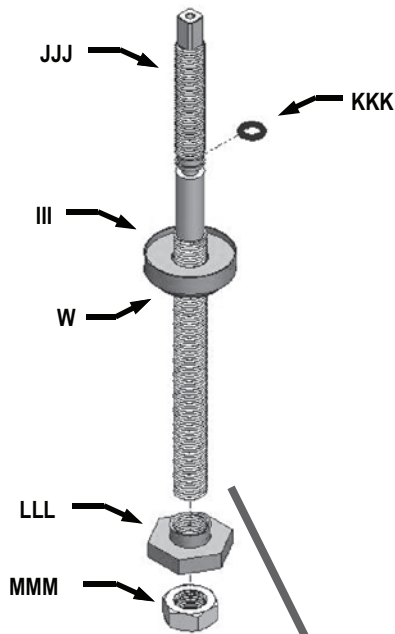

Figure 38
Step 52: Press fit the Thrust Bearing (W) into the Bearing Case (III).
Step 53: Slide a –108 O-Ring (KKK) onto the Adjusting Screw (JJJ) as shown in Figure 38. Slide the assembly from Step 52 onto the Adjusting Screw (JJJ).